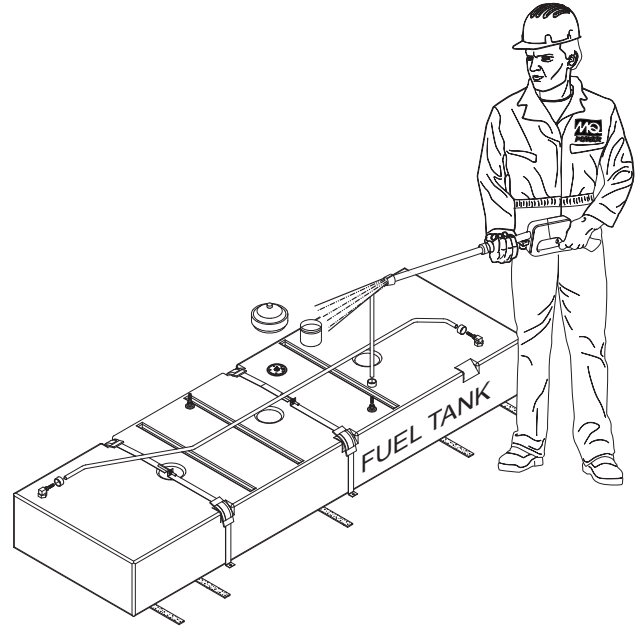

**Figure 72. Fuel Water Separator**
1. Using a **filter wrench**, remove the **fuel water separator cartridge** (Figure 72) from the **cartridge head**.